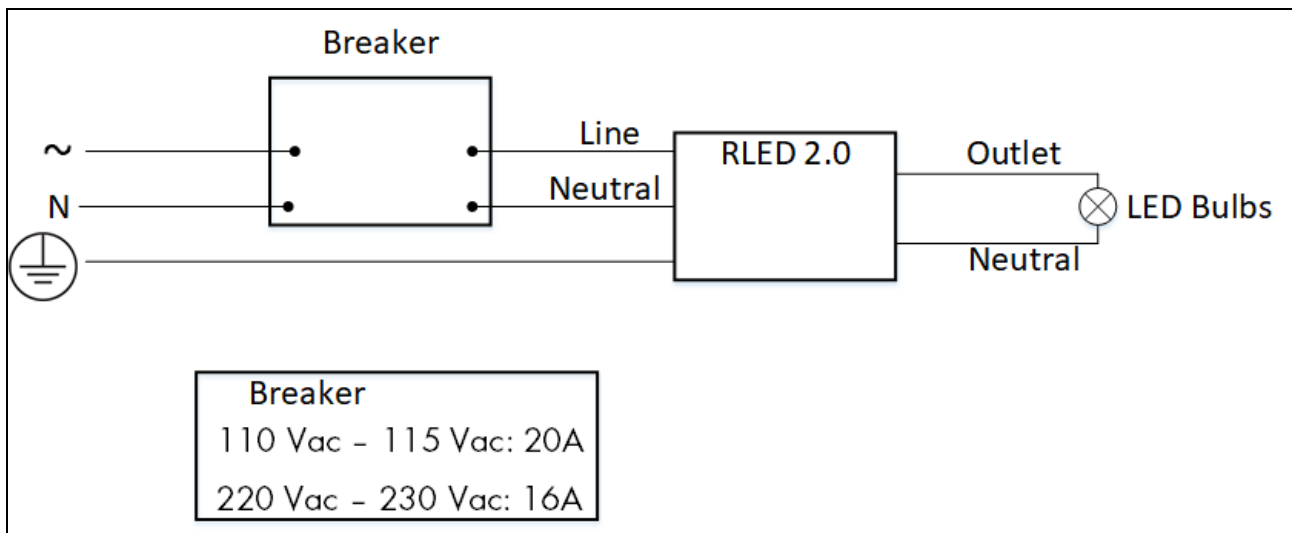

Figure 1: Breaker – RLED wiring
**CAUTION** Verify that the RLED 2.0's electrical input is connected to a circuit breaker (see Figure 1).